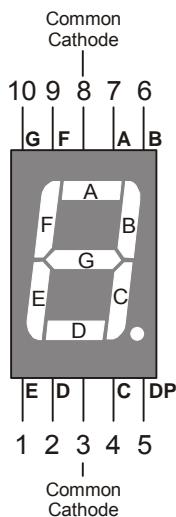
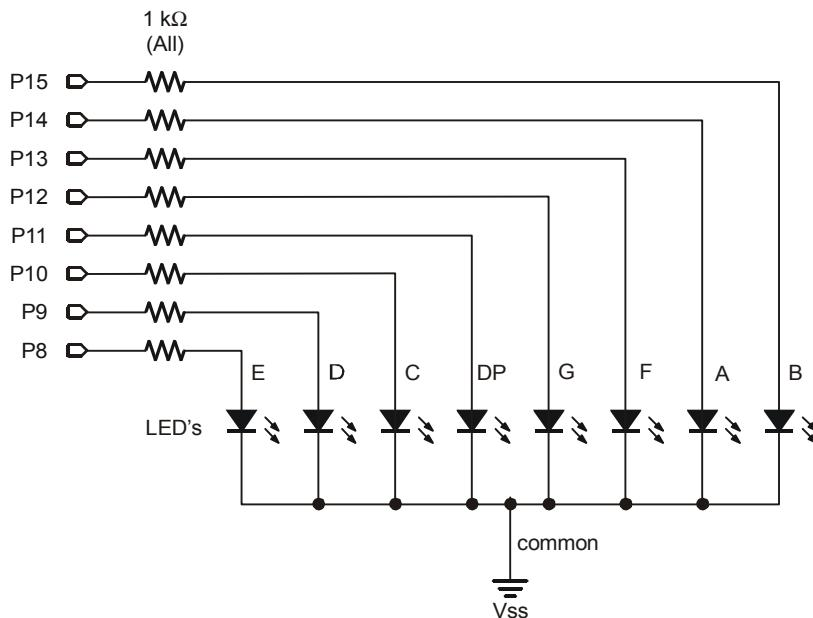
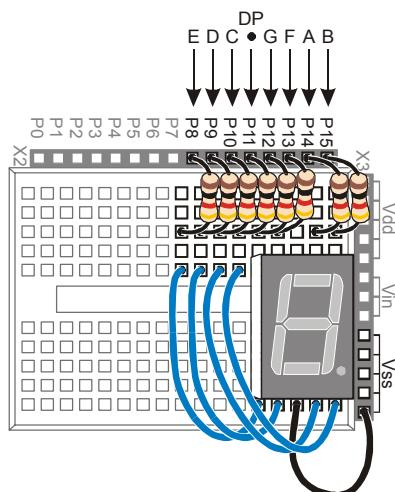

Figure 6-2
Figure 6-10
Figure 6-11
A 7-segment display is rectangular block of 7 lines of equal length that can be lit selectively to display digits and some letters. A very common form is the 7-segment LED display, a package with a rectangular block of 7 LEDs. Figure 6-2 shows a part drawing of the 7-segment LED display you will use in this chapter's activities. It has one additional LED, a dot that can be used as a decimal point. Each of the segments (A through G) and the dot contains a separate LED, which can be controlled individually. Most of the pins have a number along with a label that corresponds with one of the LED segments. Pin 5 is labeled DP, which stands for decimal point. Pins 3 and 8 are labeled "common cathode", and they will be explained when the schematic for this part is introduced.
Pin Map: Figure 6-2 is an example of a pin map. A pin map contains useful information that helps you connect a part to other circuits. Pin maps usually show a number for each pin, a name for each pin, and a reference. Take a look at Figure 6-2. Each pin is numbered, and the name for each pin is the segment letter next to the pin. The reference for this part is its overall appearance. You know by looking at the top of the display that pin 1 is closest to the lower-left corner of the display. Other parts have more subtle references, such as the flat spot on a regular LED's case.
- ✓ Using the pin map from Figure 6-2 as a guide, repeat these steps for segments C through G.
Figure 6-10 shows the schematic and Figure 6-11 shows the wiring diagram for this BASIC Stamp controlled 7-segment LED display example.
- ✓ Build the circuit shown in Figure 6-10 and Figure 6-11.
Schematic and pin map: If you are trying to build the circuit from the schematic in Figure 6-10 without relying on Figure 6-11, make sure to consult the 7-segment LED display's pin map (Figure 6-2, page 166).
Be careful with the resistors connected to P13 and P14. Look carefully at the resistors connected to P13 and P14 in Figure 6-11. There is gap between these two resistors. The gap is shown because pin 8 on the 7-segment LED display is left unconnected. A resistor connects I/O pin P13 to 7-segment LED display pin 9. Another resistor connects P14 to 7-segment LED display pin 7.